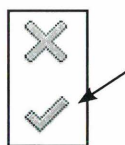

Fig. 05.34. *Finish Edit Mode*.
- Klik *Finish Edit Mode* (Fig. 05.34).